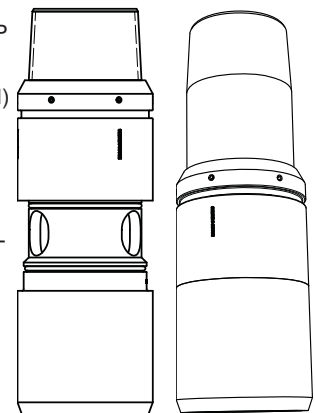

Figure 5 & 6
- 2.) Slide the tubing drain sleeve over the body, with the shear screw holes toward the pin end of the drain (see Figure 5).